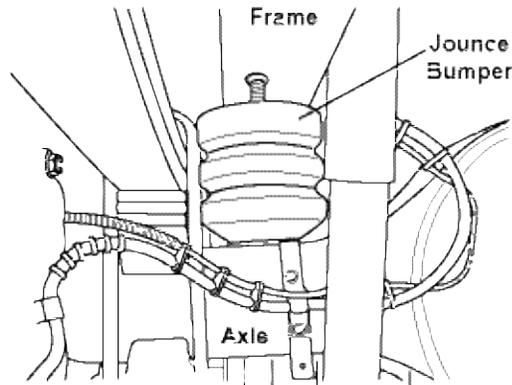

*fig. 7*
2. Drill a 3/8" hole above the axle, in the bottom of the frame flange (Figure 7).